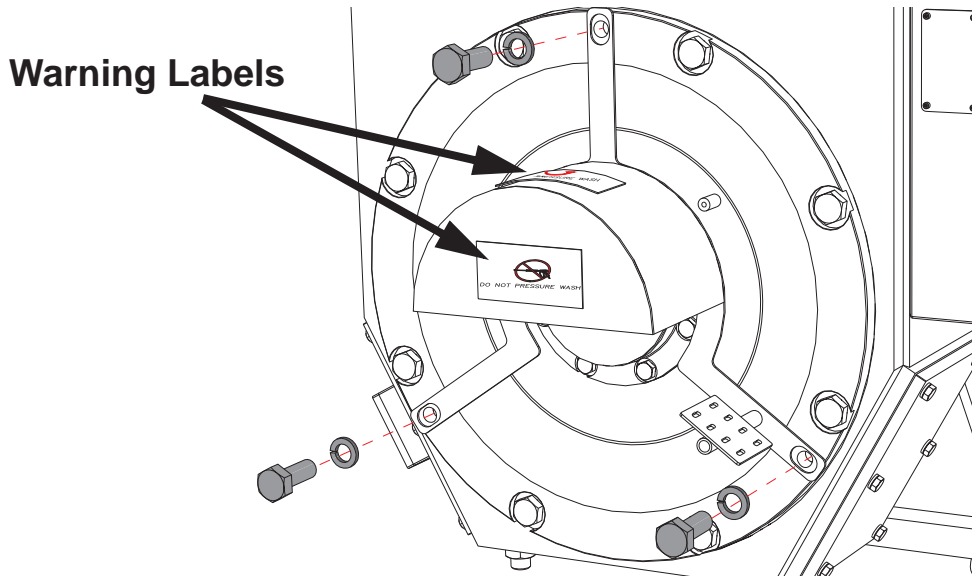

Figure 6: Install Encoder Cover, Warning Labels
8. Install motor encoder guard retrofit using three hex head bolts and lock washers. See Figure 6 on page 4.
9. Add two (2) warning labels on the encoder guard as indicated in Figure 6.